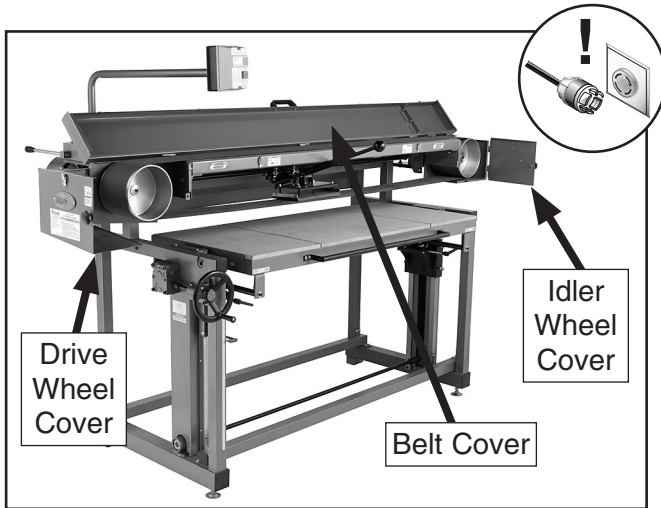

Figure 46. Belt covers open.
3. Open the belt cover, drive wheel cover, and idler wheel cover (**Figure 46**).